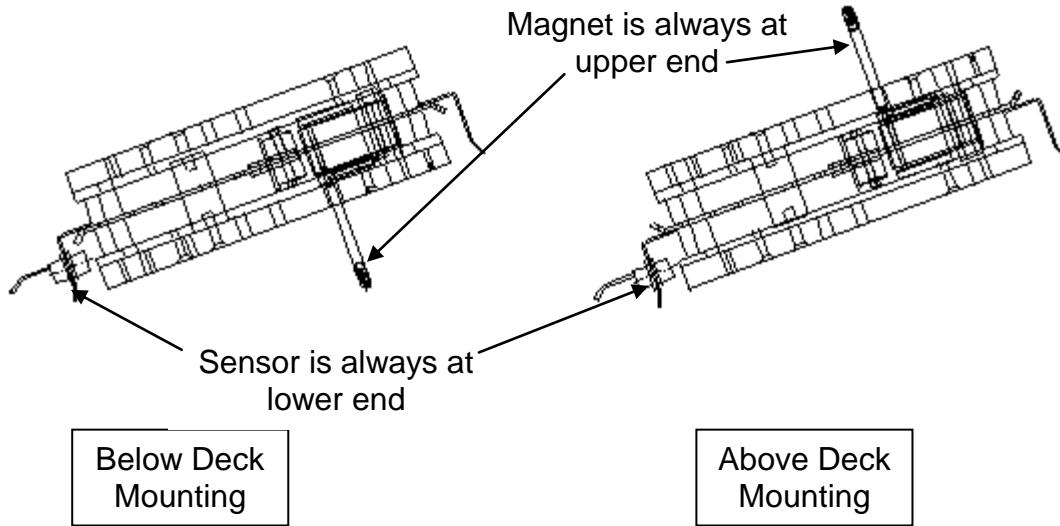

Fig. 9 Drive sensor & magnet orientation
5. Replace the drive in the reverse order of steps 1 through 4. The VF ADVANCE drive must be oriented correctly to avoid an excessively high current draw by the coil. When replacing a VF ADVANCE drive unit, the drive must be oriented so that the sensor is at the bottom, infeed side of the drive, and the cable exits the drive unit at the upper, discharge end of the drive (See Figure 9).